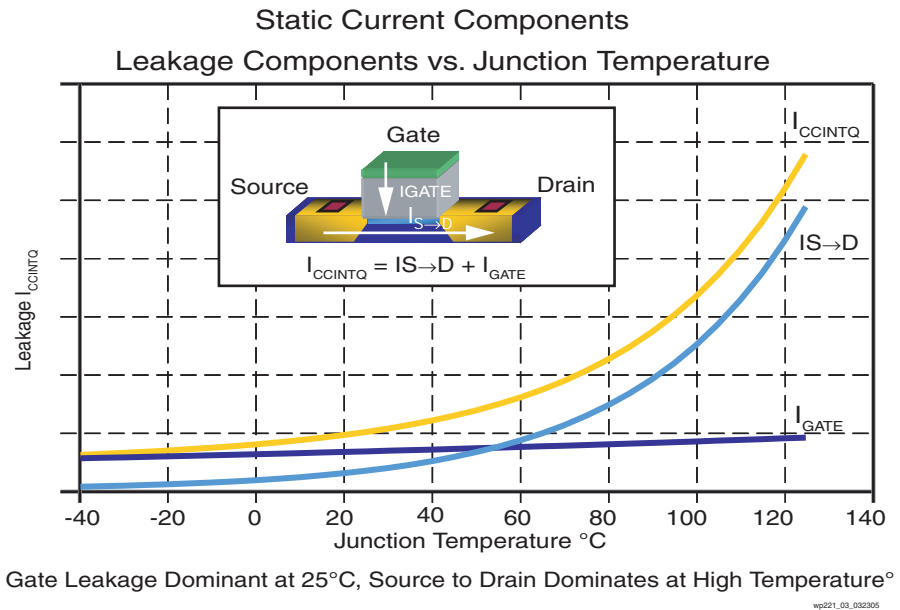

Figure 3: Leakage Current Components versus Temperature for the 90 nm Virtex-4 FPGA
- **Source-to-Drain Leakage:** This current flows from source to drain of the transistor, even when the transistor gate is off. When the transistor gets small, it is harder to prevent this current from flowing, and therefore, 90 nm transistors tend to exhibit source-to-drainage leakage with much greater magnitude than larger transistors, all parameters being equal. The other problem is the thickness of the gate oxide. A thinner oxide allows the transistor to be switched on and off faster, but it also increases leakage. The amount of leakage is also influenced by the threshold voltage of the transistor. The threshold voltage, or V_T of the transistor, is the voltage between the gate and the source at which the channel conducts current to a certain extent. Small high-speed transistors need a lower threshold voltage (influenced by oxide thickness and doping) to maintain the speed with which the transistor can be turned on and off via gate control, but this also tends to increase the leakage because the channel of the transistor can not be turned off completely. The goal is to make fast transistors, but unfortunately, physics is against this. Another important note is that source-to-drain leakage increases exponentially with increasing temperature; in going from a junction temperature (T_J) of 25°C to 85°C, it goes up by a factor of 5x (see IS →D, Figure 3, page 5).
- Gate Leakage: This current flows from gate to substrate. This component of leakage is now more substantial as transistor gate oxide thickness has decreased at the 90 nm technology node. At room temperature, the leakage from gate to substrate is larger than the source-to-drain leakage in the 90 nm fast thin oxide transistors; however, unlike source-to-drain leakage, this gate leakage only increases marginally with increased temperature (see I_{GATE} , Figure 3).